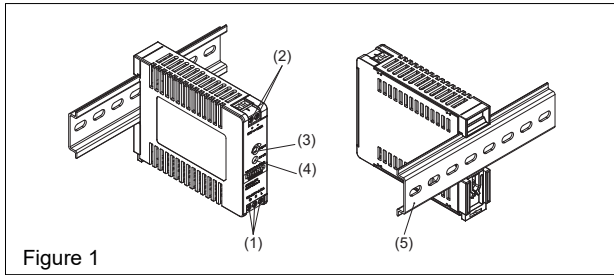
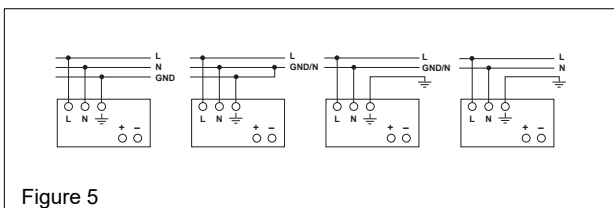

Figure 1
Figure 5
2. Device description (Fig. 1)
5.1. Input connection (Fig. 1, Fig. 5)
Use L, N and GND connections of input terminal connector (see Fig. 1 (1)) to establish the 100-240 VAC connection. Typical connection methods are shown in Figure 5.
5.2. Output connection (Fig. 1 (2))
Use the "+" and "-" screw connections to establish the 24VDC connection. The output provides 24VDC. The output voltage can be adjusted from 24 to 28 VDC on the potentiometer. The green LED DC OK displays correct function of the output (Fig. 1 (4)). The device has a short circuit and overload protection and an overvoltage protection limited to 30-34.8 VDC.